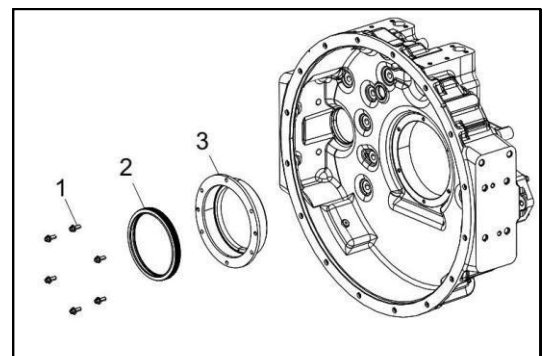

Figure 108
6. Disassemble the rear oil seal (Figure 108, 2) from the rear oil seal seat (Figure 108, 3).